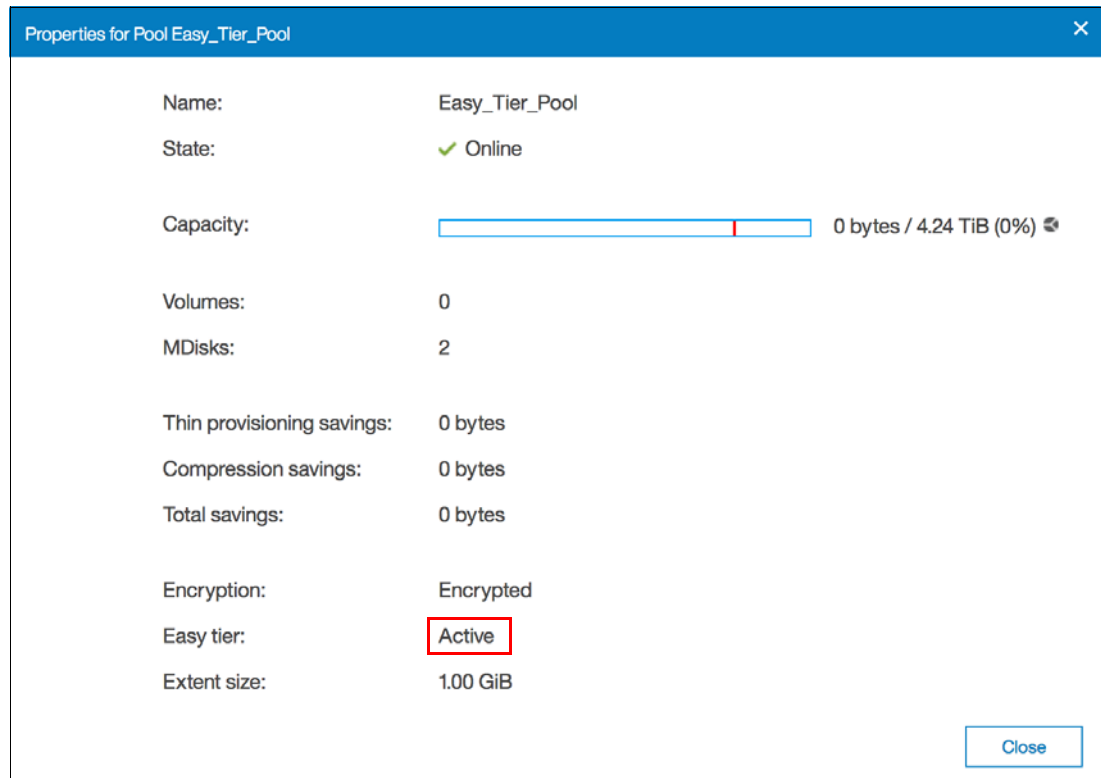

Figure 9-17 Pool properties that show that Easy Tier is active
11. Select the pool to which the second drive class was added. Select **Properties** from the Actions Menu and click **View more details** in the Properties panel. With two different tiers the Easy Tier status is automatically changed to Active (Figure 9-17 on page 424) and starts to manage the extents within the pool by promoting or demoting them.